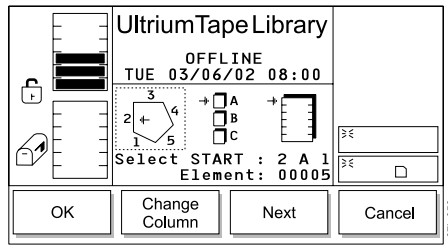

Figure 152. Scan Barcode Dialog
3. Press the button below the **Scan Barcode** softkey. The Scan Barcode Dialog displays (see Figure 152) with a message area that shows three icons:
The position of the arrow in each of the three icons identifies the storage slot's physical address. For example, arrows that point to a column 2, magazine A, and storage slot 1 indicate a physical address of 2 A 1. In the Scan Barcode Dialog, a slot's physical address displays below the right icon (see Figure 152).